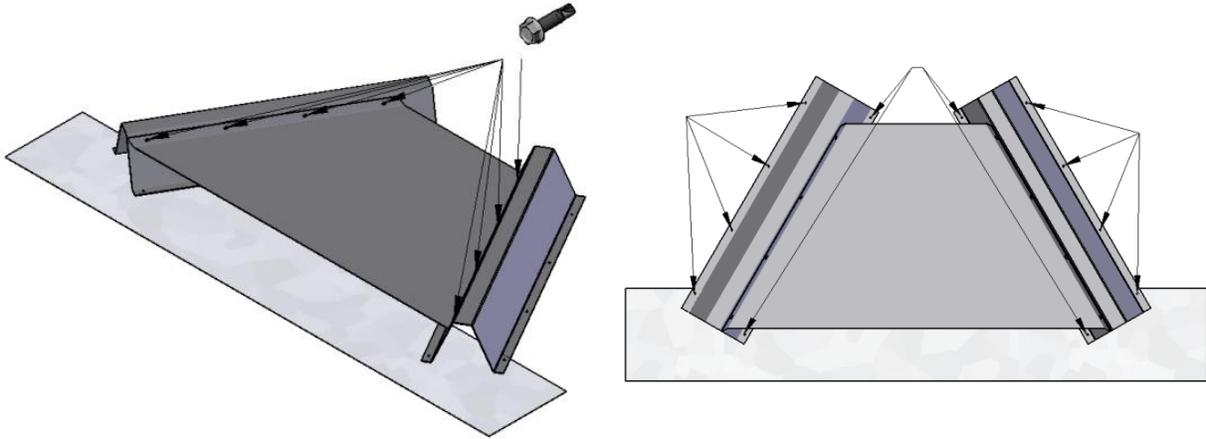

FIGURE 7 ASSEMBLING AND INSTALLING THE FIREPLACE BOTTOM STANDOFF
- Next, assemble the bottom standoff shield to both supports (see Figure 7) using eight large self-tapping screws (provided).
- Using at least 1½" wood screws (not provided), solidly attach both left and right sides of bottom standoff to the floor, as well as the front and back of the inner sides, as shown in Figure 7. If possible, attach the bottom standoff to the floor joists below using 3" wood screws (not provided).